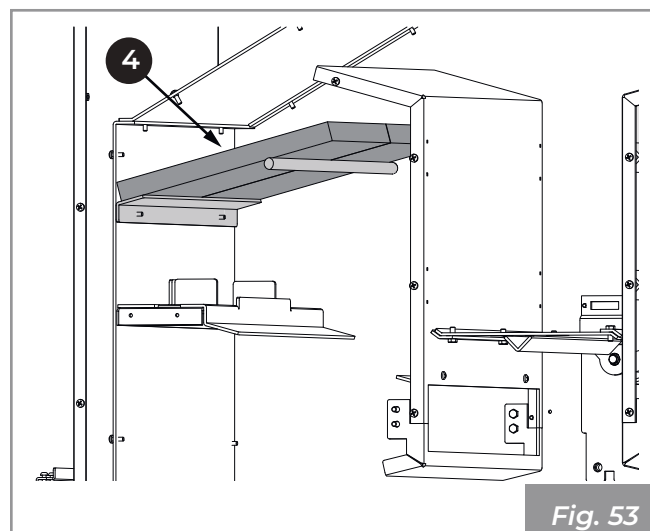

Fig. 53
7) Remove and extract the panels (4) (Fig. 53).